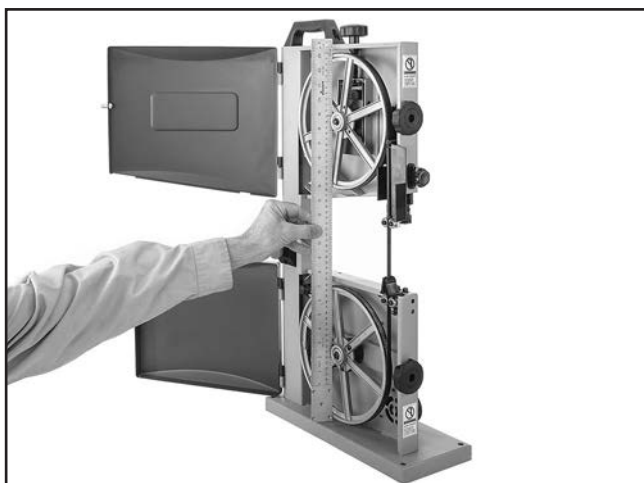

Figure 53. Checking if the wheels are coplanar.
3. With blade on and properly tensioned, hold a straightedge close to center of both wheels. Make sure straightedge fully extends across the rims of both wheels, as shown in **Figure 53**.